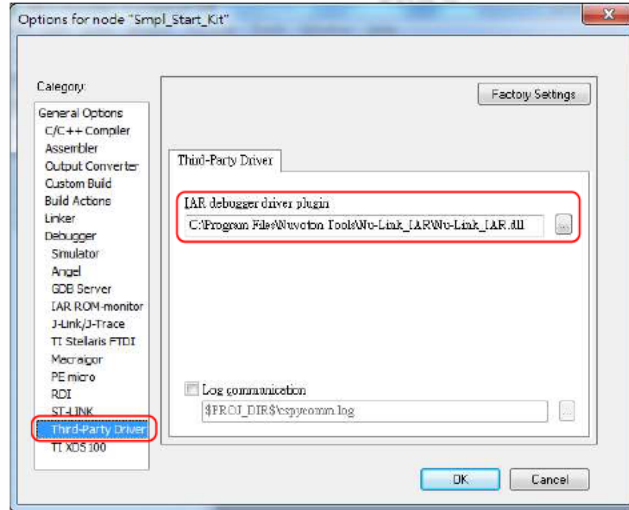

Figure 4-18 Set the Path of the IAR EWARM Debugger Driver Plugin
Step 7: In the **Third-Party Driver** page, specify the path of the IAR debugger driver plugin "C:\Program Files\Nuvoton Tools\Nu-Link_IAR\Nu-Link_IAR.dll", as shown in Figure 4-18.